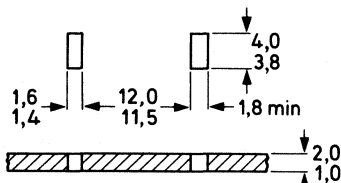

Fig.2 Heatsink requirements
2. Push the short end of clip (part no. 56363) into the narrow slot in the heatsink with the clip at an angle of between 10° to 30° to the vertical (see Figs.2 & 3).